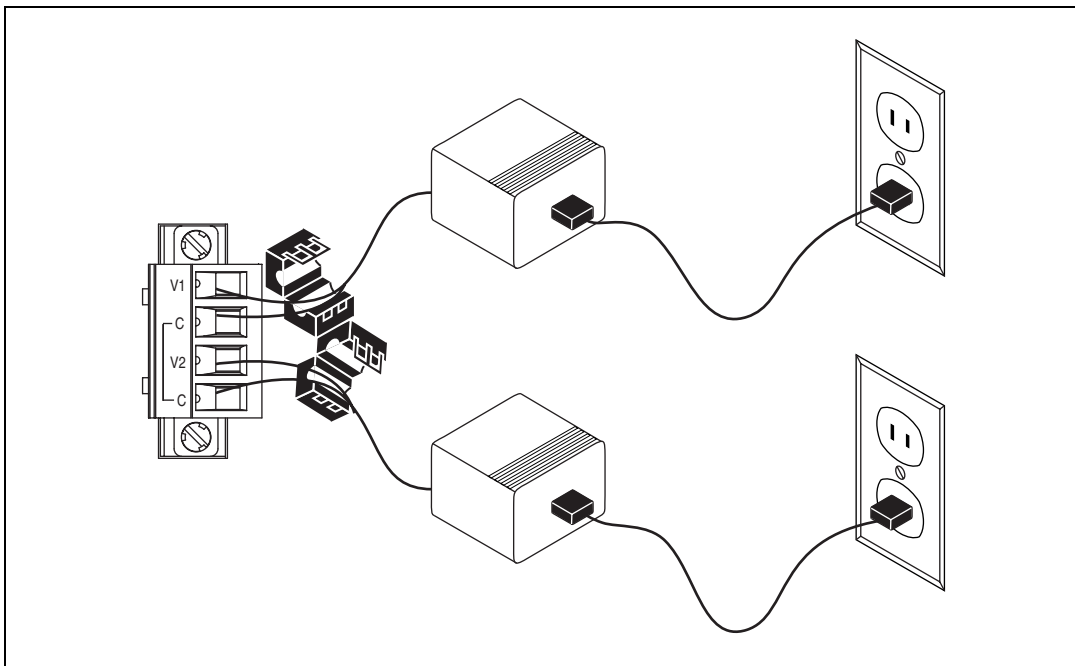

Figure 4. Wiring Power to the Controller
1. Install a ferrite across the negative and positive wires for both the V1 and V2 terminals. Refer to Figure 4 for an illustration of this step.